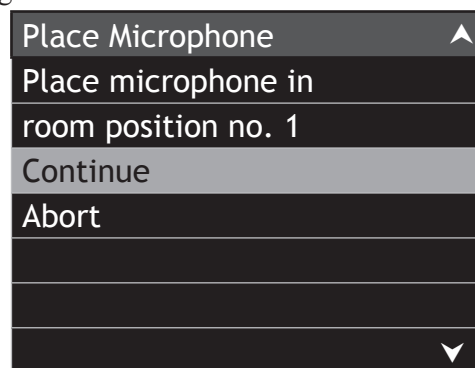

Figure 36
8. Relocate the microphone to another place in the room and press SELECT to continue. Refer to figures 36 and 37.